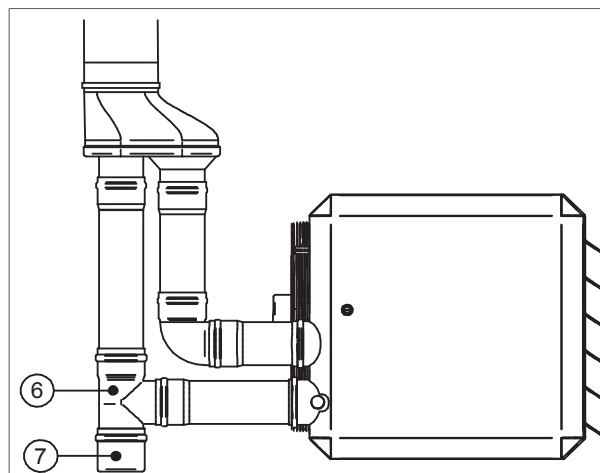

Figure 17- A T-piece (6) and condensate trap (7)
- Add a T-piece (figure 17).
- Add a condensate drain (figure 17).